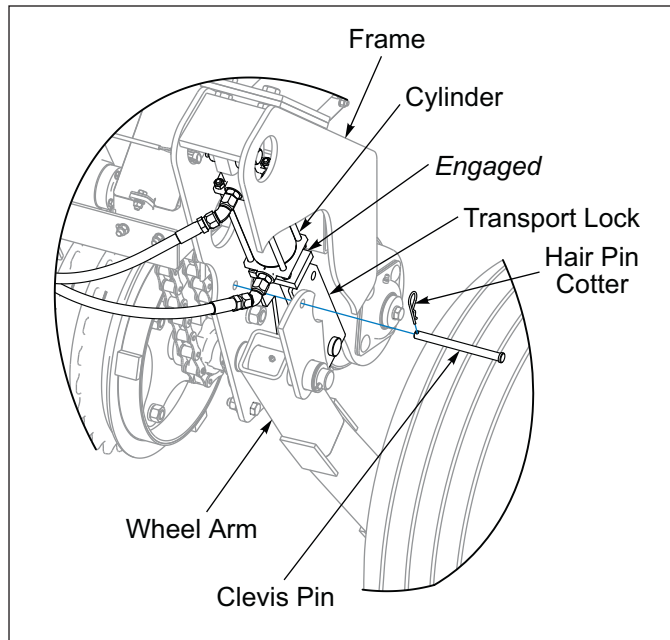

Figure 2-12: Transport Lock Engaged
6. Raise the Seeder and install Transport Locks. **See Figure 2-12.**